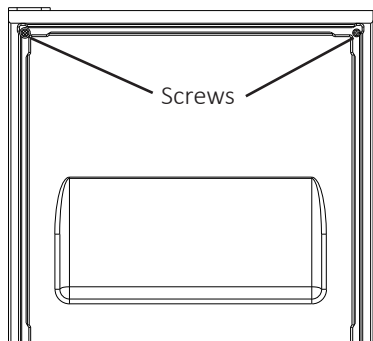

Fig. 14
- 2) Temporarily fasten the overlay panel to the door using 2 of the M4x25 pan head screws provided (See Fig. 14).